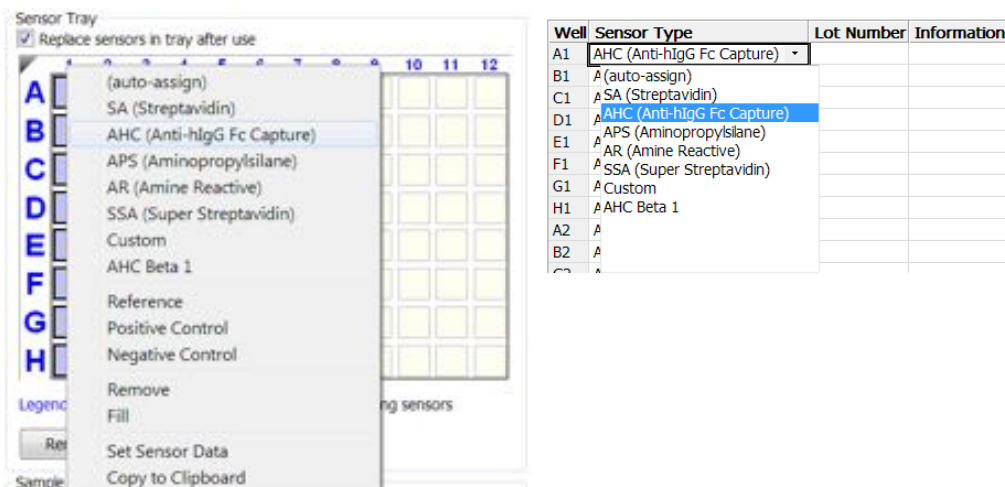

Figure 9-48: Sensor Assignment Window—Changing the Biosensor Type
- Select a column in the **Sensor Tray Map**, right-click and select a biosensor type from the drop-down list (Figure 9-48 left). The associated wells in the **Sensor Type** column will automatically populate with the biosensor type selected.
- Select a cell in the **Sensor Type** table column, click the down arrow and select a biosensor type from the drop-down list (Figure 9-48 right). All other wells in the same column of the **Sensor Tray Map** as the selected cell will automatically populate with the biosensor type selected.